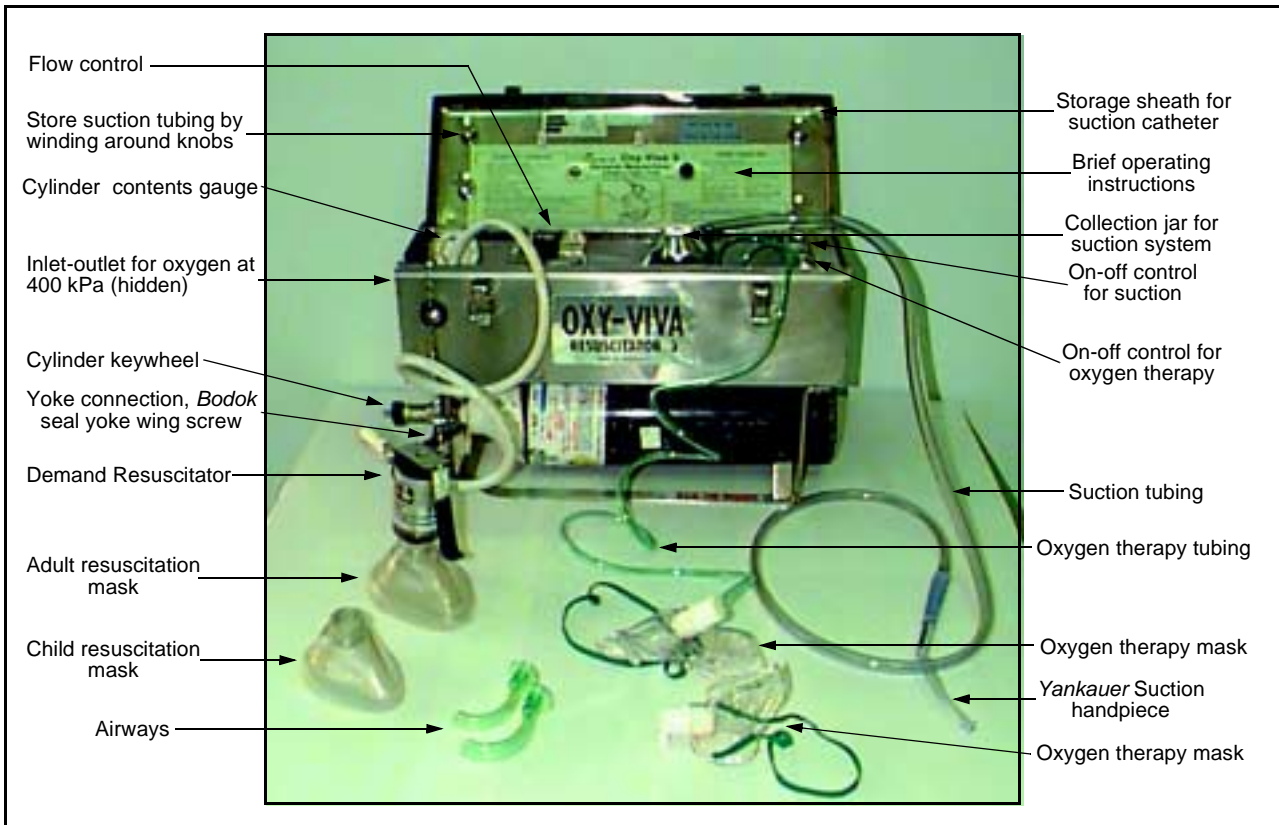

Fig 5.22 Robert Shaw Resuscitator
- *Robert Shaw* Demand Resuscitator (see Fig 5.22); and